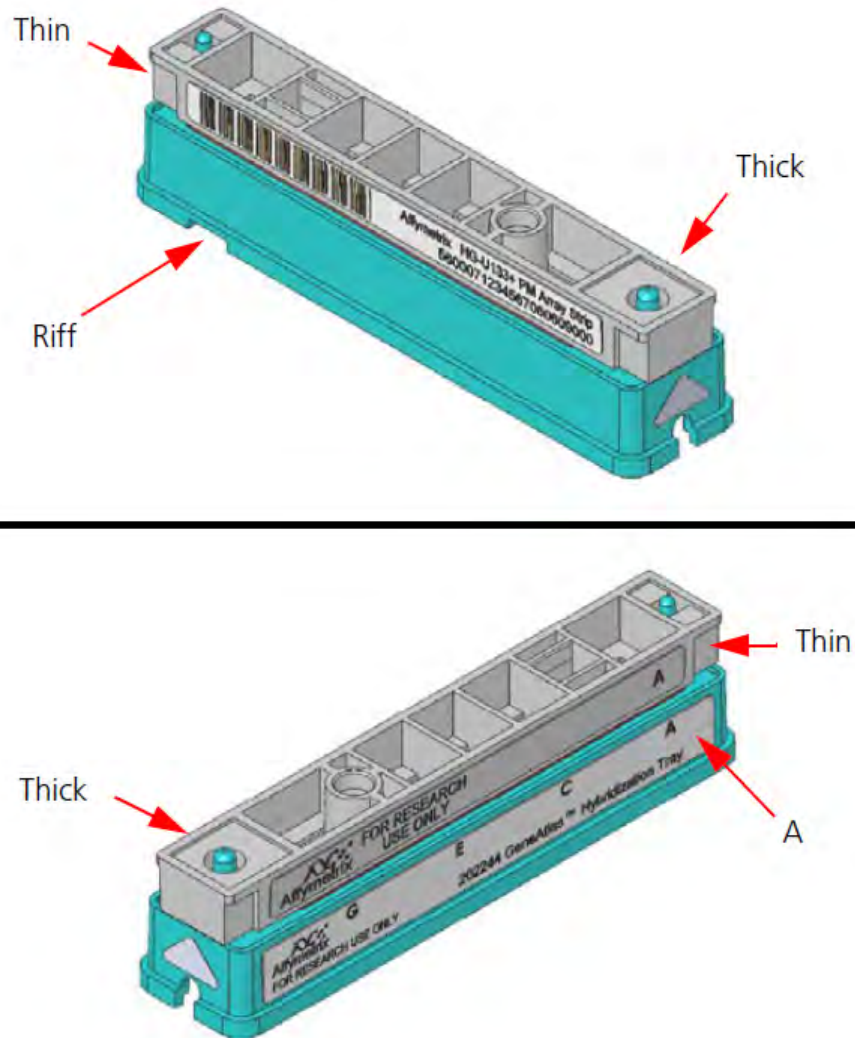

Figure 7 Proper orientation of the array strip in the hybridization tray.
- b. Remove the array strip from its foil pouch and carefully place it into the hybridization tray (Figure 7). Ensure that there are no bubbles beneath the array strip.
See Figure 7 for proper orientation of the array strip in the hybridization tray.